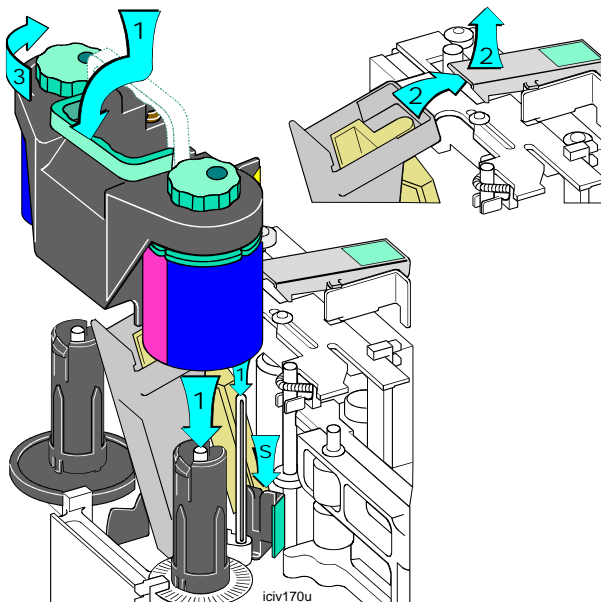

Figure 4-4: Replace the print ribbon cartridge in the printer
- 2 Align the print ribbon cartridge so the ribbon spools are over the print ribbon spindles (step 1 in Figure 4-4).
- 3 Lower the print ribbon cartridge into the printer (step 1 in Figure 4-4). Make sure the ribbon passes between the printhead cage and the print platen roller.
- i** Make sure the print ribbon passes through the color sensor (marked “S” in Figure 4-4).
- 5 Lift the printhead latch and press the printhead cage forward until it is upright (step 2 in Figure 4-4). Make sure the printhead latch clicks into place. Push down on the printhead latch if needed.
- 6 If there is slack in the print ribbon, turn the ribbon take-up knob clockwise  to take up slack (step 3 in Figure 4-4).